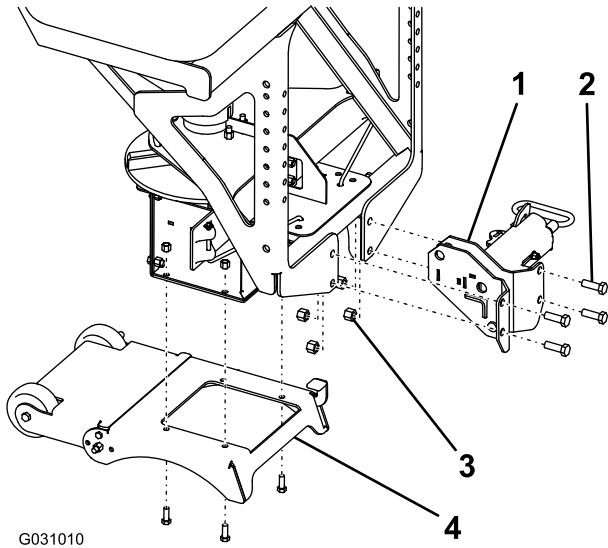

Figure 8
1. Mount the RT3 attachment to the spreader using 4 bolts (1/2 inch) and locknuts (1/2 inch) and torque the bolts to 76 Nm (56 ft-lb) (Figure 8).
2. Mount the leg assembly to the spreader using the 4 existing bolts (3/8 inch) and locknuts (3/8 inch) and torque the bolts to 27 Nm (19.7 ft-lb) (Figure 8).